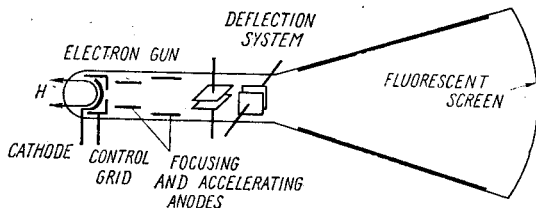

Fig. 6. Structure of electrostatic-deflection type cathode-ray tube
current waveforms. Cathode-ray tubes consist of three basic components: 1. the electron gun, 2. a deflection system, 3. a fluorescent screen. These essential parts of a cathode-ray tube are mounted inside a highly evacuated, funnel-shaped glass envelope (as shown in Fig. 6) the large end of
5. Note in Fig. 6 that two pairs of deflecting plates at right angles to each other are set into the path of the electron beam. The vertical deflecting plates move the beam vertically up and down, while the horizontal deflecting plates move the beam sideways, to the left or right of the centre.